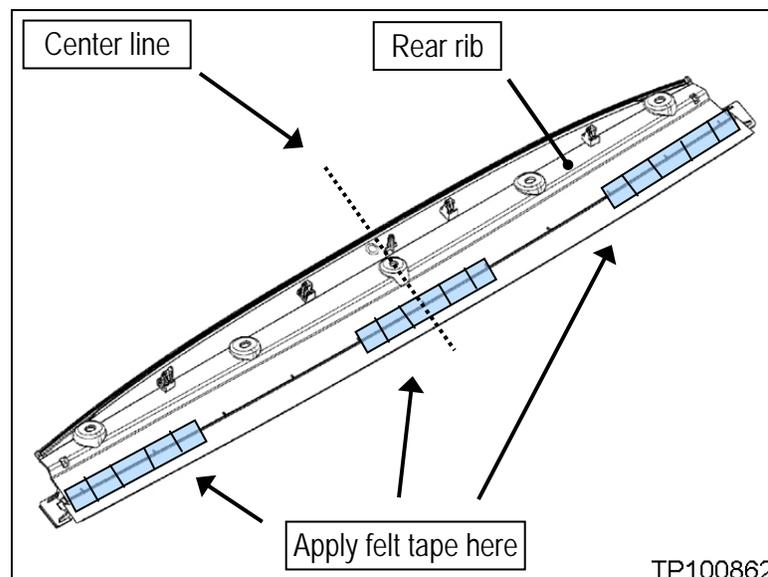

Figure 3
2. Cut to width, and then apply five (5) pieces of felt cloth tape to each area on the rear rib as shown in Figure 3.